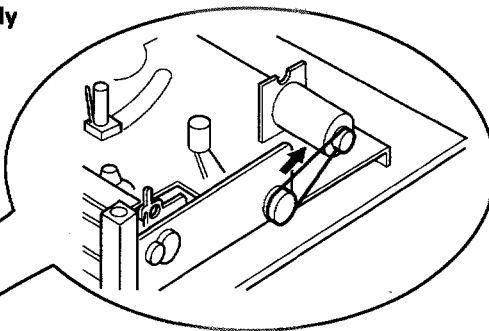
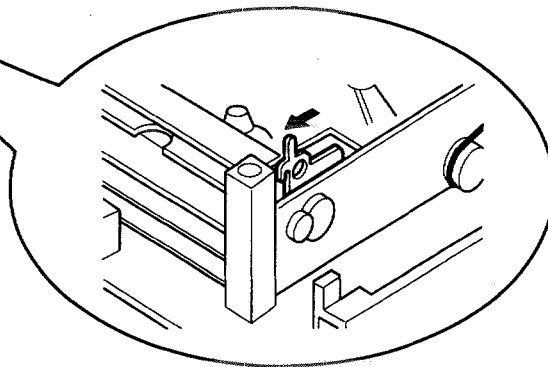

Fig. 2
Fig. 3
Turn the loading motor pulley in the direction as indicated by Fig.2. As both (A) and (B) levers are lodged twice, push the levers in the direction as indicated by Fig.3 to release them. When pushing the levers, do it in the order of (A),(B),(B),(A). When the holder has been lowered, turn the pulley until the cassette holder is securely in place without allowing any up/ down movement.